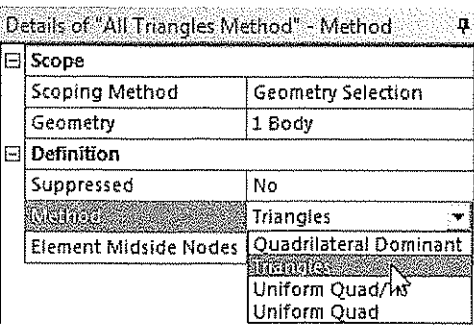
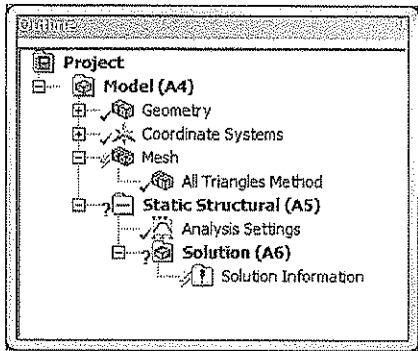

Figure 8-54 Selecting the **Triangles** option from the **Method** drop-down list
Figure 8-55 The **All Triangles Method** displayed in the Tree Outline
- In the **Method** drop-down list, select the **Triangles** option, refer to Figure 8-54; the **Automatic Method** in the Tree Outline is replaced by **All Triangles Method**, as shown in Figure 8-55.